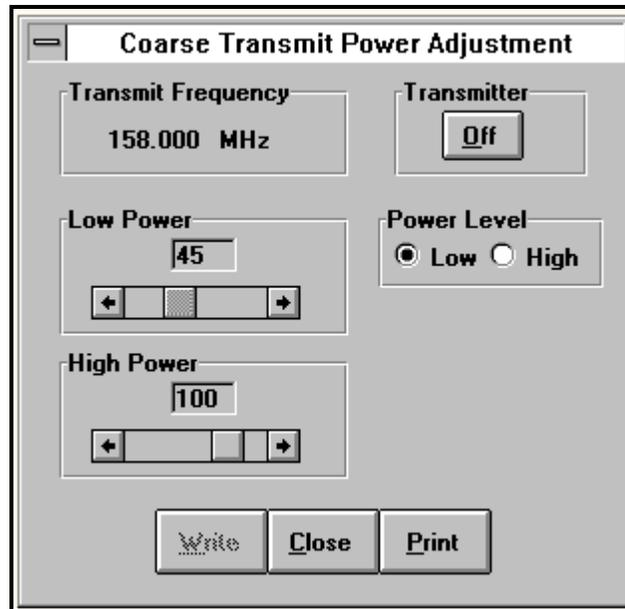

Figure 7.5 – Coarse Transmit Power Adjustment
1. Select “Coarse Transmit Power Adjustment” from the Service dropdown menu. The service adjustment window is shown in Figure 7.5.